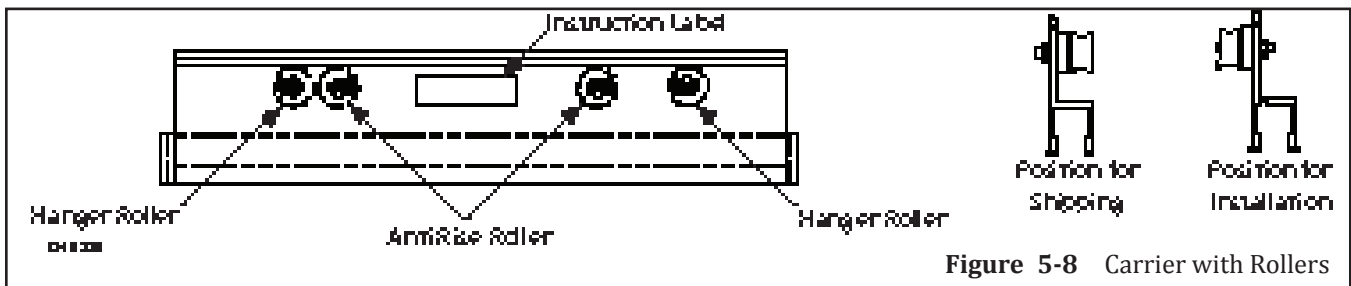

Figure 5-8 Carrier with Rollers
2. Remove each Roller by loosening the nut on with a 1/2" open end Wrench. Please see Figure 5-8.
- a. Lightly tighten Rollers in the positions seen in Figure 5-8.